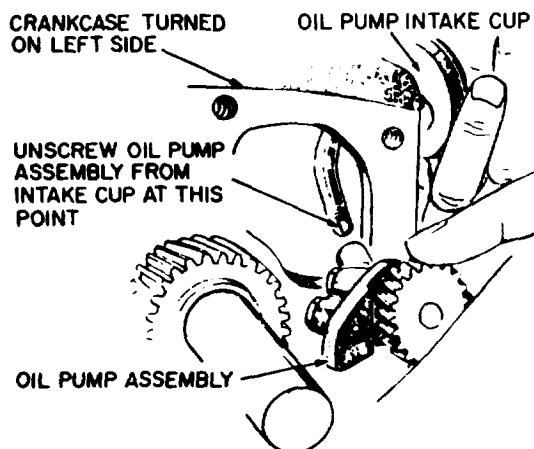

Figure 5-60. Oil Pump Disassembly
- (1) Check the oil pump thoroughly for worn parts. Oil the pump to prime it before reinstalling. Except for gaskets and suction cup, the component parts of the pump are not available individually. Install a new pump assembly if required. See figure 5-60.
- (2) If new oil pump gaskets are installed, they should be the same thickness as those removed.